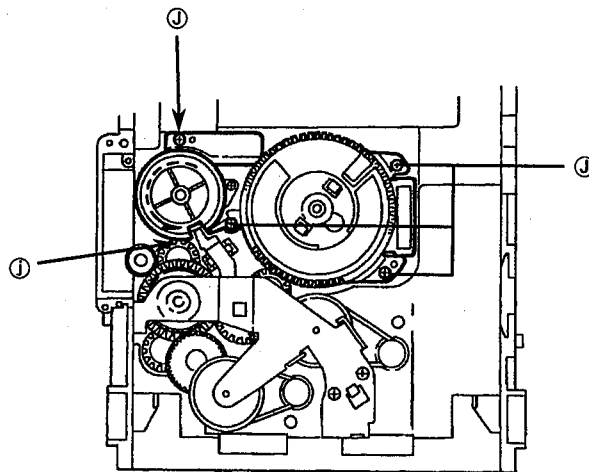

Fig. 43
4. Rotate the Cam gear L so that the select gear's ⑨ is positioned as shown in Fig.43.
5. Remove 4 screws ⑥ securing the cam unit which includes the cam gear L and Cam R1, R2 ass'y. (See Fig 43.)